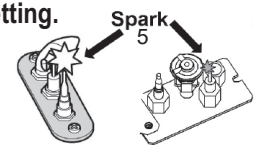

Fig 3
2. SET ON/OFF SWITCH (1) TO "OFF" POSITION.
- Wait five (5) minutes to clear out any gas, then smell for gas, including near the floor. If you smell gas, STOP! Follow "B" in the safety information above on this label. If you don't smell gas, go to the next step.
3. AUTOMATIC IGNITION (fig. 1): Locate the pilot (fig 3.) inside of firebox.
- ON/OFF switch (1) in ON position, MAN-knob (2) in ON position; set Flame Adjustment knob (3) to lowest setting (U)
- When the pilot is lit, the Flame Adjustment knob (3) will automatically rotate to the highest setting.
4. MANUAL IGNITION (fig. 2): With the window off, locate pilot (fig. 3) inside firebox;
- ON/OFF switch (1) in ON position, MAN-knob (2) in MAN position;
- Set Flame Adjustment knob (3) to the lowest setting (U);
- Push down the metallic core (4) with a pen or similar instrument; this will establish the pilot gas flow;
- Light gas at the pilot (5) with a match;
- Continue holding down metal core (4) for about 10 seconds; after release, pilot should remain lit;
- If the pilot will not stay lit after several tries, turn the gas control knob (3) to "OFF" (U) and call your local service technician or gas supplier.
- Reinstall the window and set the MAN-knob (2) to "ON"; turn Flame Adjustment knob (3) up (U) or down manually or use the up/down 'flame' buttons on the remote control handset to adjust the flame height.